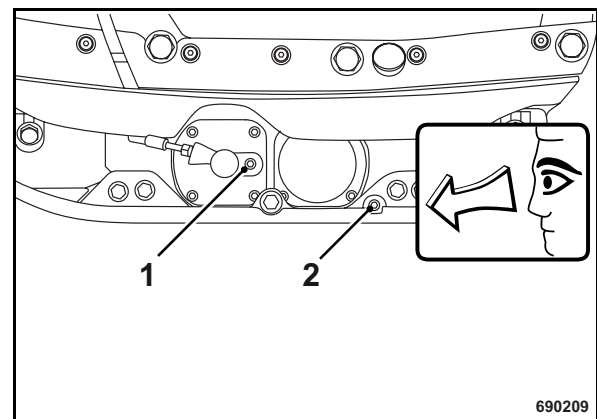

Fig. 58
- Unscrew the bleeder screw (1) (Fig. 58).
- Unscrew the oil level inspection plug (2) and check the oil level.